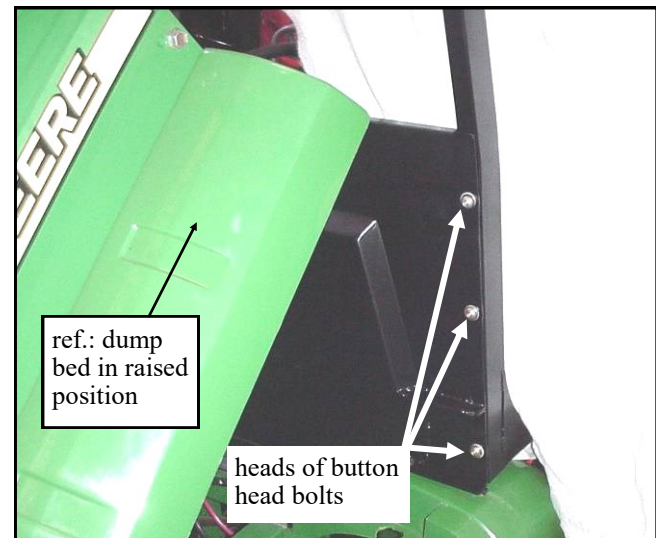

Fig. 8.2
8.2 Attach the lower rear panel to the back of the side frames using three button head bolts 5/16 x 3/4" long, three plastic washers, and three steel washers. Reminder: plastic washers have been supplied to provide a weather seal under the heads of all exterior bolts. Note: the back of the side frame has factory installed threaded inserts. See fig. 8.2.